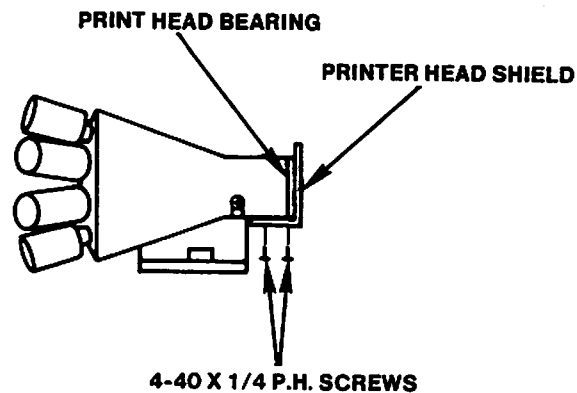

FIGURE 2
5. Using two 4-40 X 1/4 Phillips-head screws attach the printer head shield to the bottom of new printer head assembly (see Figure 2).
7. Adjust printer head assembly so the printer head shield is flush against the print head bearing (see Figure 2).